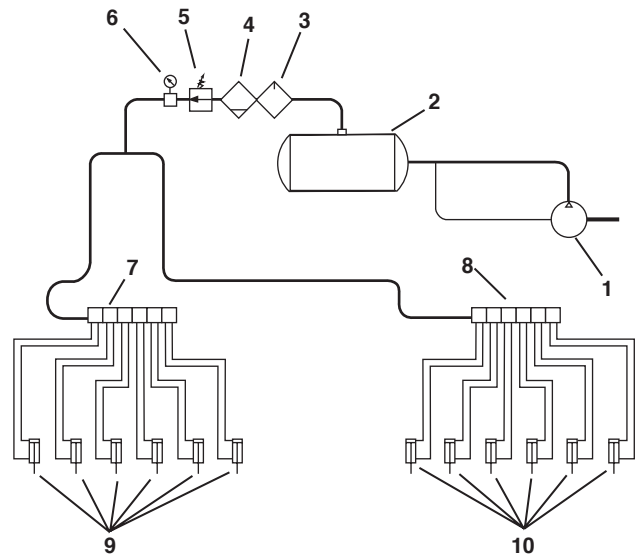

Figure 21. Air System
1. Set the main pressure regulator at 80 psi. (Fig 21)